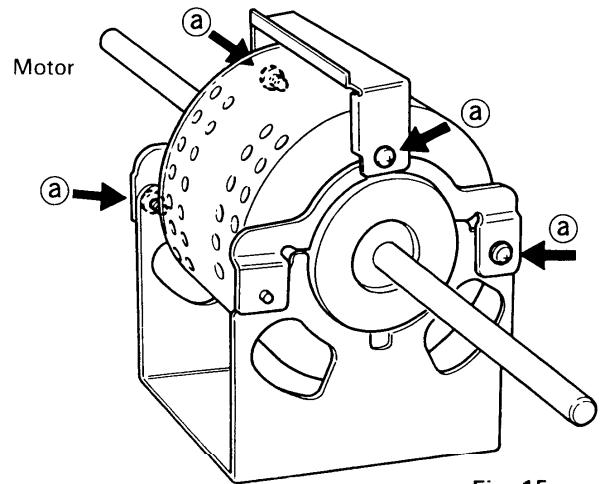

Fig. 15
(3) Remove the four screws ② fixing the motor. Fig. 15